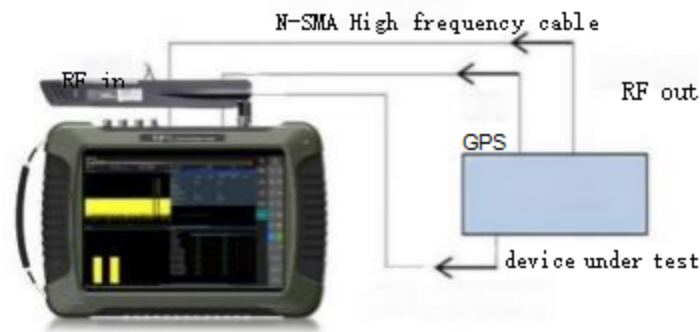

Figure 5.37 Schematic diagram of the connection between the power sensor and the RMT series spectrometer
Step 1. Connect the USB interface of the power sensor to the USB interface of the upper panel of the RMT series spectrometer as shown in Fig. 5.37. Section 3.2.